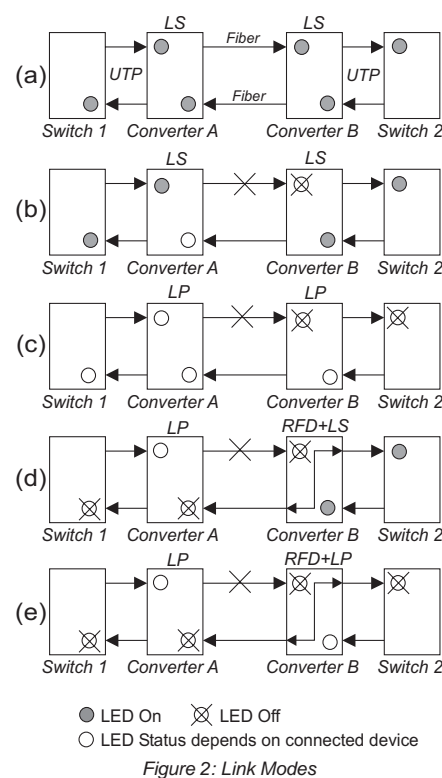

Figure 2: Link Modes
In order to accommodate different user needs, the GX/T supports four different link modes (see Fig. 2).
In Link Segment (LS), a port transmits a Link signal independently of any received Link at any other port. For example, the UTP transmits a Link regardless of the fiber receiving a Link [Fig. 2(a) & (b)].
In Link Propagate (LP), a port transmits a Link signal only when receiving a Link at its other port. For example, the UTP transmits a Link only when receiving a Link at the fiber port [Fig. 2(c)].
In Remote Fault Detection + Link Segment (RFD+LS), the fiber port transmits a Link signal only when receiving a Link at the fiber port. As a result, fiber faults (no Link received at the fiber) are looped-back and can be reported to the network core [Fig. 2(d)].
In Remote Fault Detection + Link Propagate (RFD+LP), the UTP port transmits a Link signal only when receiving a Link at the fiber port. The fiber port transmits a Link signal only when receiving Link signals at both the fiber port and the UTP port. As a result, fiber faults (no Link received at the fiber) are propagated forward and looped back for fault reporting at both the network core and the customer location [Fig. 2(e)].